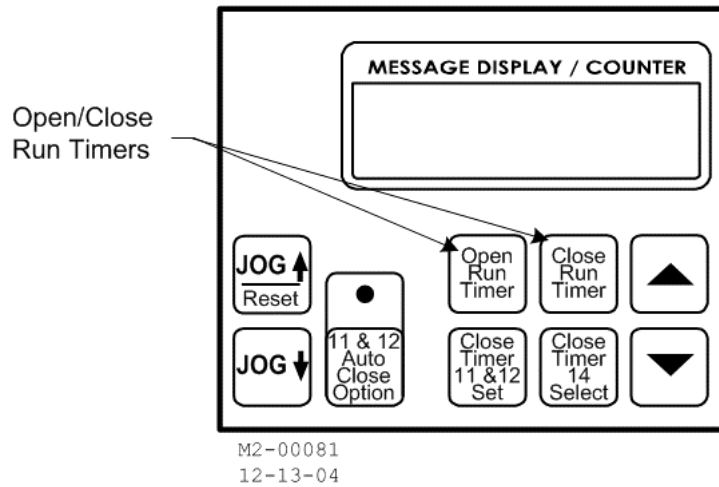

Figure 3-22: Auto Close Timer Setting
1. Press the **OPEN RUN TIMER** button on the DYNALOGIX controller. The current countdown time displays in the LCD. See Figure 3-22.